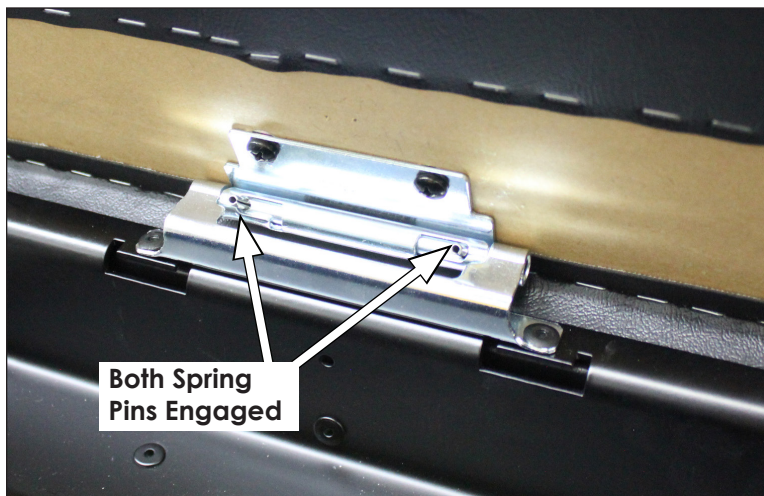

Figure 38: Top Pad Hinge
3. Use a small pick or screwdriver to engage both spring pins on each hinge and connect the pad to the table. Refer to **Figure 38**.